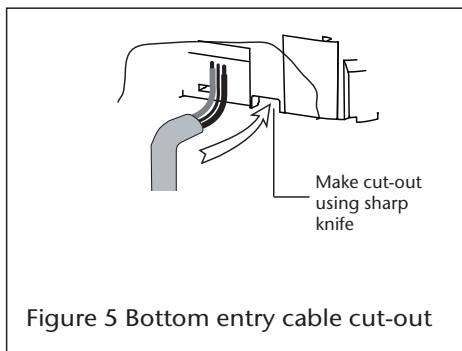

Figure 5 Bottom entry cable cut-out
- 4.8 Cable entry can be from the rear (preferred) or from the bottom. The backplate has cut-out position to suit size of cable. When opting for bottom entry make the cut-out to suit the cable before fitting the backplate to the wall -see Figure 5 below.